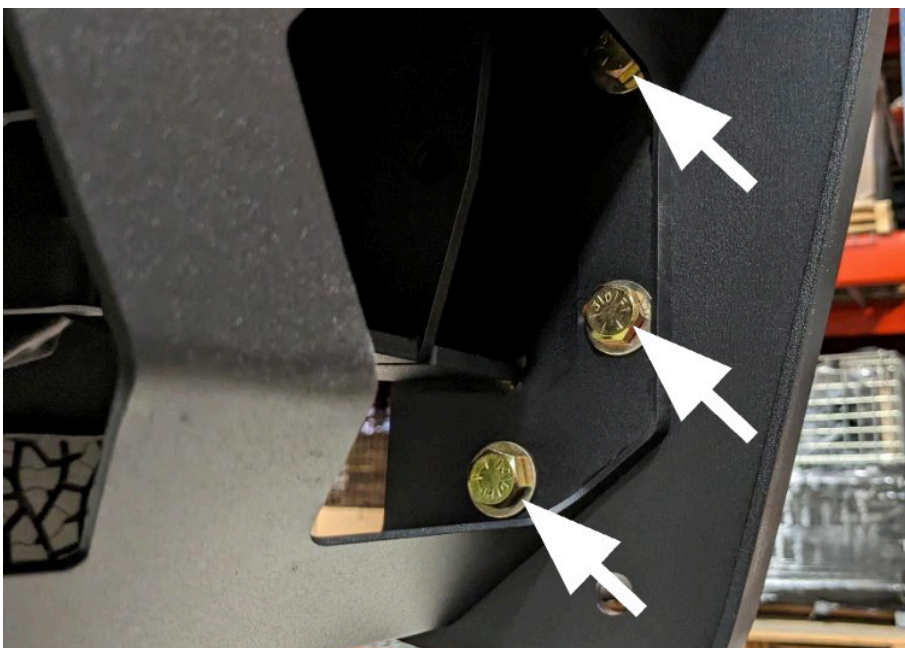

Figure 27
24. Using a 3/4" socket and combination wrench, install the lower guard (Part#: 23134/23135) into the bumper with the six (6) provided 1/2"-13 x 1.0" hex head cap screws, flat washers, lock washers and nuts. (Figure 27)